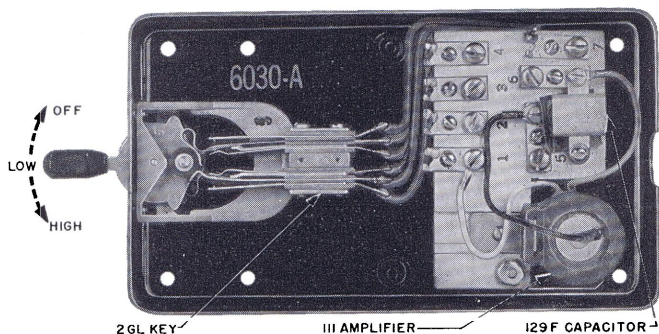

Fig. 4—6030A Key (Internal)
2.02 The 6030A key is designed to be used at common battery, local battery talking, and magneto stations. The 6030A key has the same external appearance as the 6017-type key. It contains a 111B mechanical-type amplifier, a 129F capacitor, and a 3-position lever. (See Fig. 4.) The 129F capacitor is connected across the transmitter unit of the 111B amplifier to prevent packing. The key has one normal and two operated positions. The normal position is in the center between the two